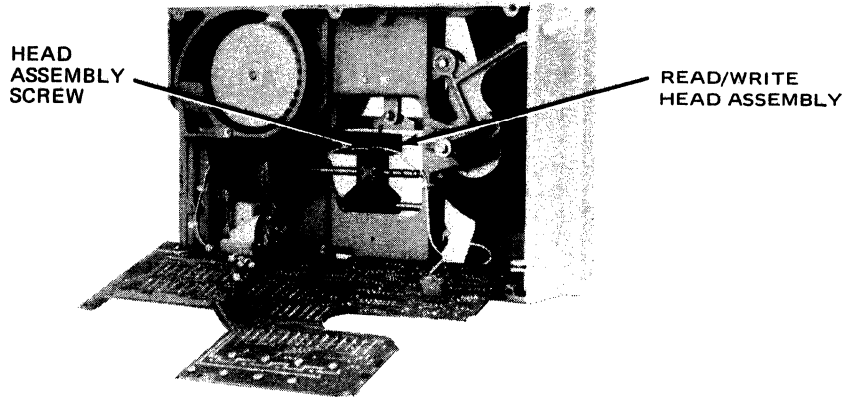

Figure 7-25. Read/Write Head Assembly
- d. Remove screw holding head assembly to carriage assembly (Figure 7-25).